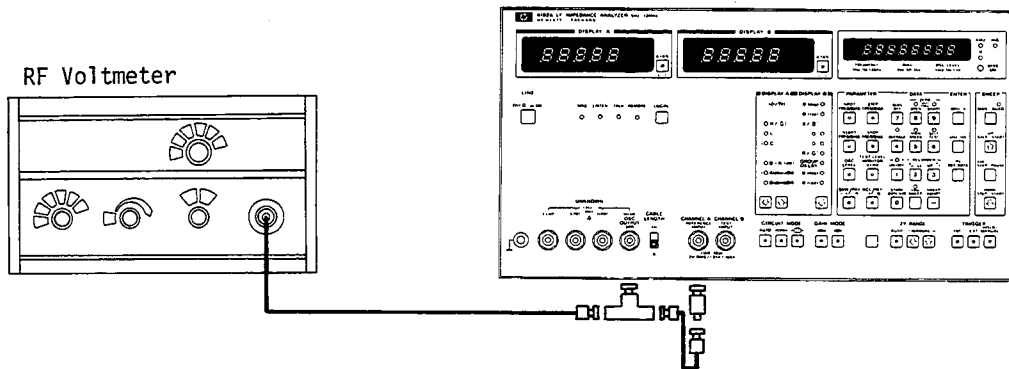

Figure 4-8. Absolute Amplitude Accuracy Test Setup.
- a. Connect the OSC OUTPUT (H_{CUR}) terminal to both the 3403C Input and CHANNEL A (REFERENCE INPUT) as shown in Figure 4-8.